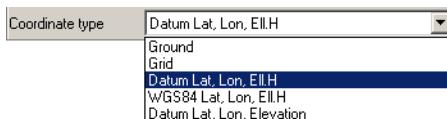

Figure 3-41. Coordinate Type List
- Select the Coordinate type (Figure 3-41).